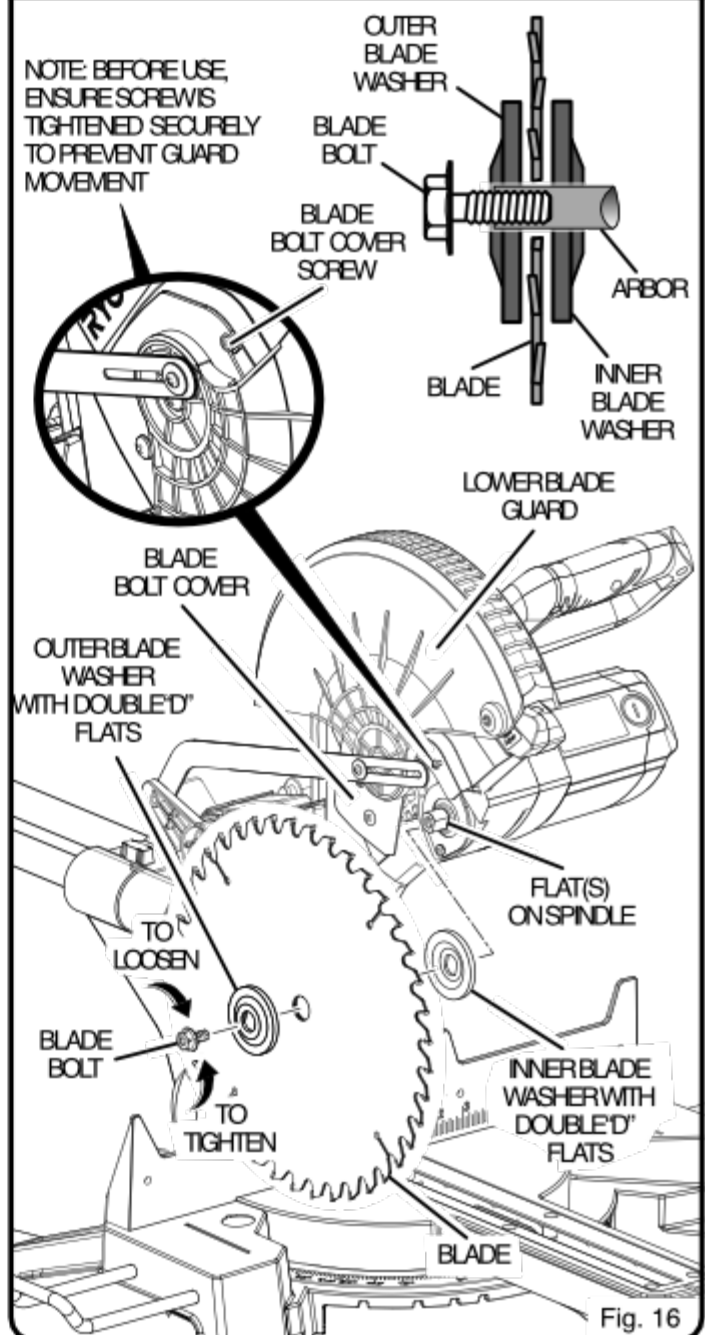

Fig. 16
- Fit saw blade inside lower blade guard and onto spindle. The blade teeth point downward at the front of saw as shown in figure 16.